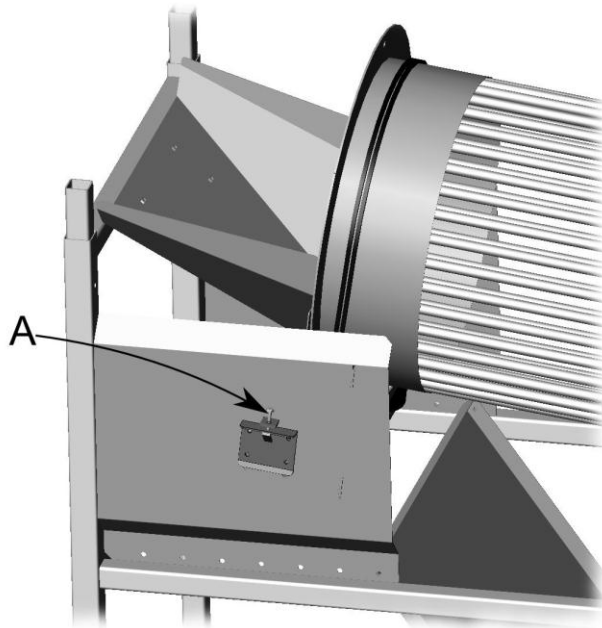

Fig. 7.
- The V-belts are tightened by tightening the bolt A (Fig. 7).